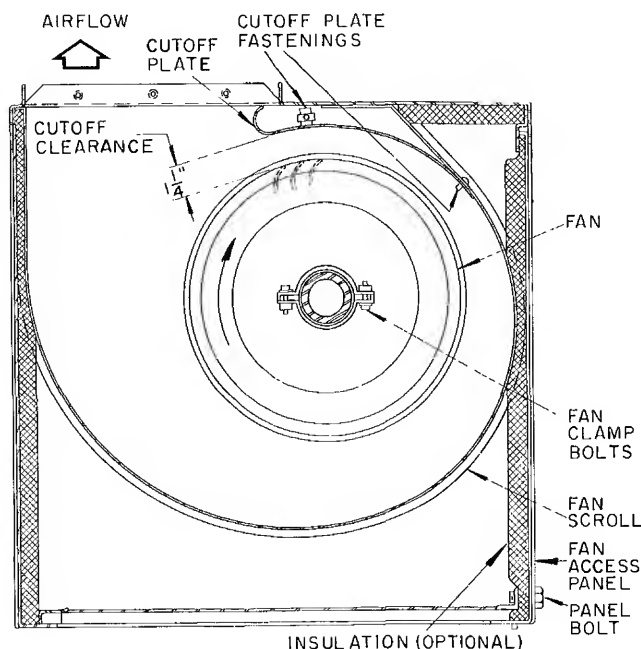

Fig. 6 — Fan Cross Section
1. Loosen two bolts in lower corners of panel. Pull bolts out as far as cotter pins will allow. Refer to Fig. 6.
3. Unscrew cutoff plate fastenings. Remove cutoff plate from fan scroll. Refer to Fig. 6.
5. Replace fan wheels in reverse order. Adjust cutoff plate for 1-1/4-inch clearance. Tighten securely. Refer to Fig. 6. Fan blades must be as shown.